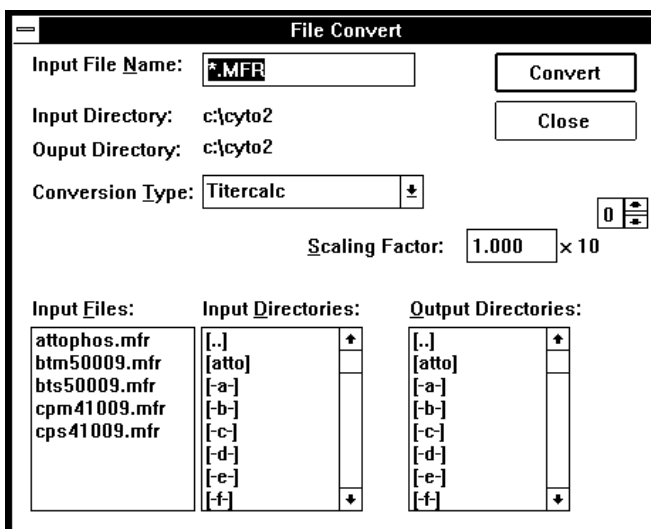

Figure 3-19 File Convert Dialog Box
1. Select **Convert** from the File menu (Alt, F, C). The File Convert dialog box appears Figure 3-19.